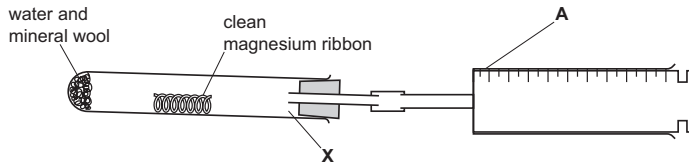

Fig. 1.1
Fig. 1.1 shows the apparatus a teacher uses to react clean magnesium ribbon with steam and collect the hydrogen gas produced.
- (a) Name the item of apparatus labelled **A** in Fig. 1.1.
(d) Draw **two** arrows on Fig. 1.1 to show the **two** places where the apparatus should be heated. [2]
(e) During the reaction a colourless liquid collects at the point marked **X** on Fig. 1.1.